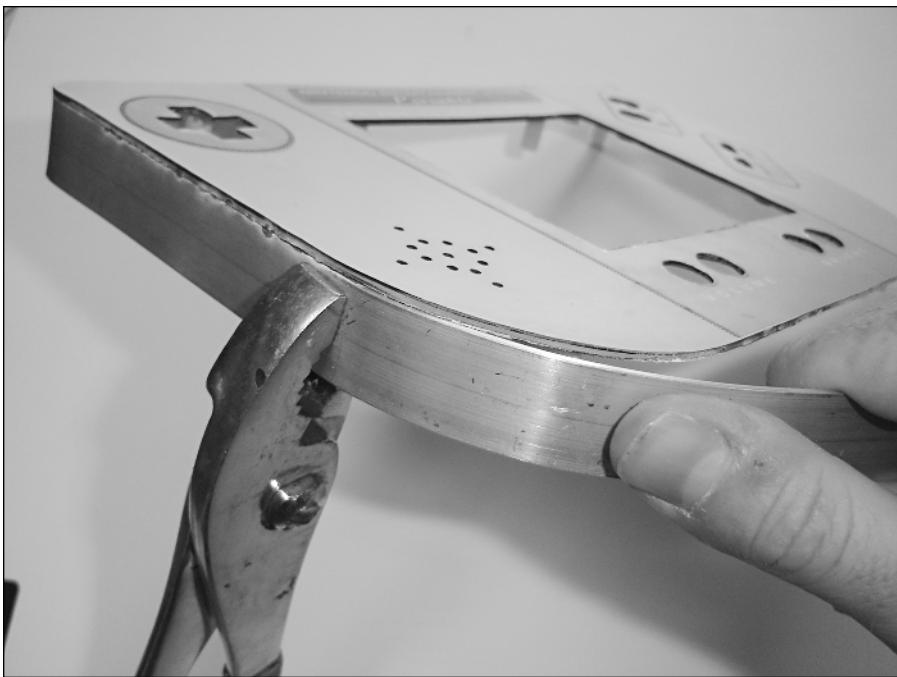

FIGURE 7-10: Bending the second curve. The pliers keep the already-glued portions from bending.
2. Then, take a small dish and dump in some water and a drop or two of dish detergent to make a slightly slippery mixture. Dunk each graphic in this, and then apply it to the front plate, as seen in Figure 7-10.
5. Let the glue dry, and then grip your big pliers at the last glued portion. Press down with your thumb to bend the aluminum around the first big curve, as shown in Figure 7-10.